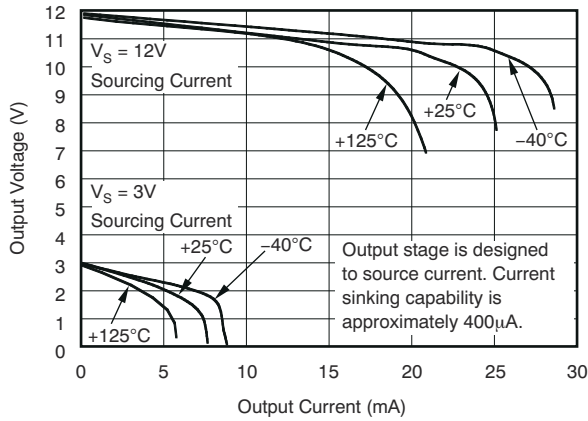

图 6-8. Positive Output Voltage Swing vs. Output Current
- (1) Offset is extrapolated from measurements of the output at 20 mV and 100 mV V_{SENSE} .
- (2) Total output error includes effects of gain error and V_{OS} .
- (3) Linearity is best fit to a straight line.
- (4) For details on this region of operation, see the Accuracy Variations as a Result Of \$V_{SENSE}\$ and Common-Mode Voltage section in the Application and Implementation.
- (5) See Typical Characteristic curve *Positive Output Voltage Swing vs. Output Current* (图 6-8).
- (6) Specified by design; not production tested.